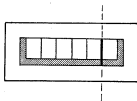

Fig. 6-4. Tracking meter set
4. Adjust R390/V1 Board so that the tracking meter indicates the fifth division from the left. See Fig. 6-4.